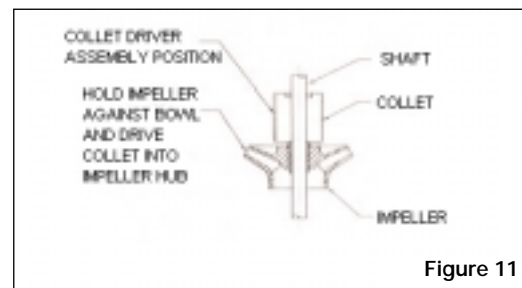

Figure 11
5. Insert a screwdriver into the slot in the taper collet (677) spread the slot and slide the collet over the pump shaft. Hold the impeller against bowl and slide the collet into the impeller hub.
6. Hold shaft with capscrew and washer against the suction bell and drive the taper collet into place with a collet driver, (See Figure 11). After collet is in place, recheck "X" dimension (Table 1).